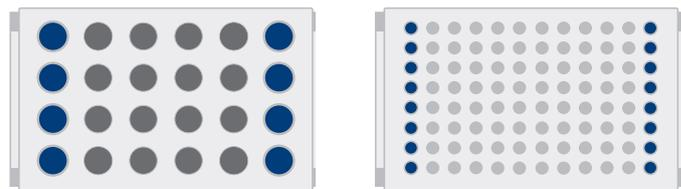

Figure 58. Load the columns symmetrically from the outside in and use all positions in a plate/rack column.
- » Load the wells or columns symmetrically from the outside in so that the pressure head can be positioned horizontally over the plate/rack; see Figure 58.